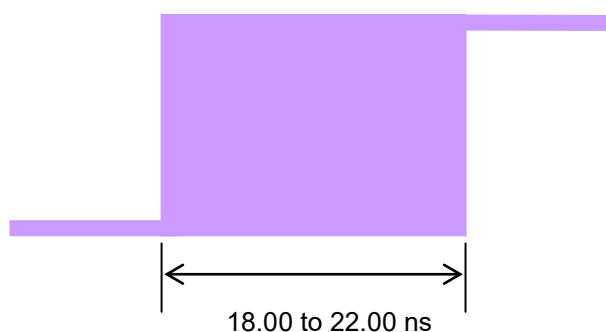

Figure 6.3.5-2 Example of waveform measured by sampling oscilloscope
4. Adjust the rising or falling edge of the waveform to the Center of the sampling scope, and set the span to 5 ns/Div. Trace overlapping waveforms for 10 seconds with the oscilloscope, and check that the phase deviation of the measured waveforms falls within the range shown in Figure 6.3.5-2.